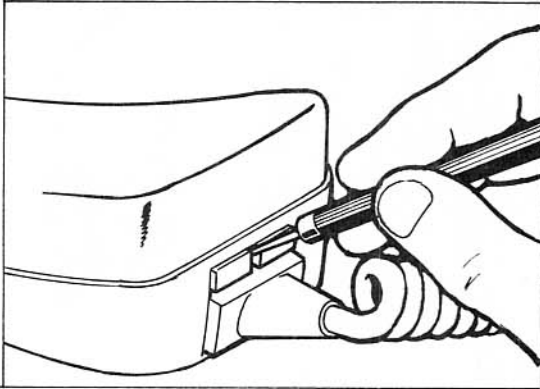

Figure 7A. Depress Spring Clip.
1. Insert a release tool in the slot provided as shown in figure 7A. Be sure the tool is on top of the spring clip.